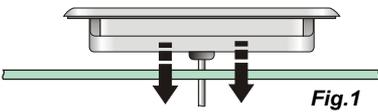

Fig.1
Step 1 - Insert wi-fi cable connector into the empty connection on the circuit board marked "CO" (Fig.1)
Step 1 - Clean area and insert spaside control. (Fig.1)